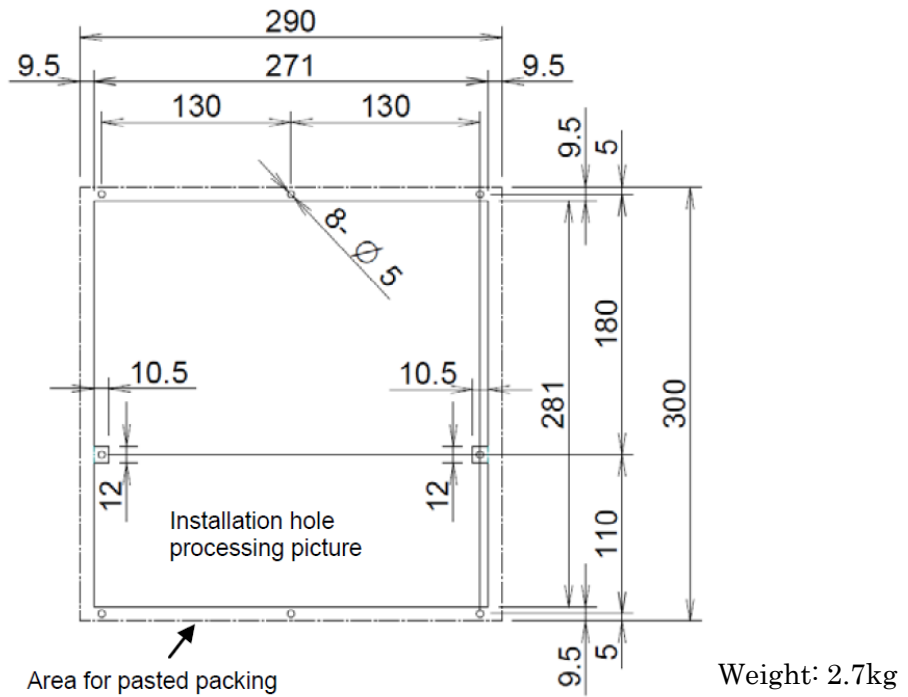

Fig. U17 10.4" LCD/MDI unit B(Vertical) ⑧
10.4" LCD/MDI unit B(Vertical)	Fig. U17